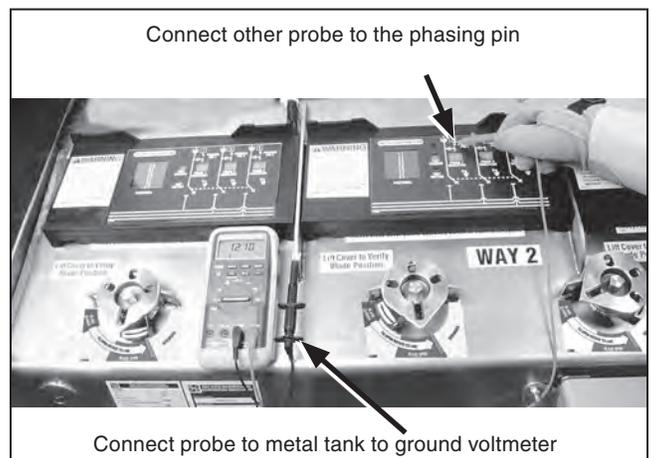

Figure 52. Test probes connected to the metal tank to ground the voltmeter and to the phasing pin.
- (b) Connect one of the test probes of the voltmeter to the metal tank of the switchgear to ground the voltmeter. See Figure 52.
- (c) Place the other test probe on each of the phasing pins, in turn, for the two ways to be phased and to measure the phase-to-ground voltage. See Figure 52.